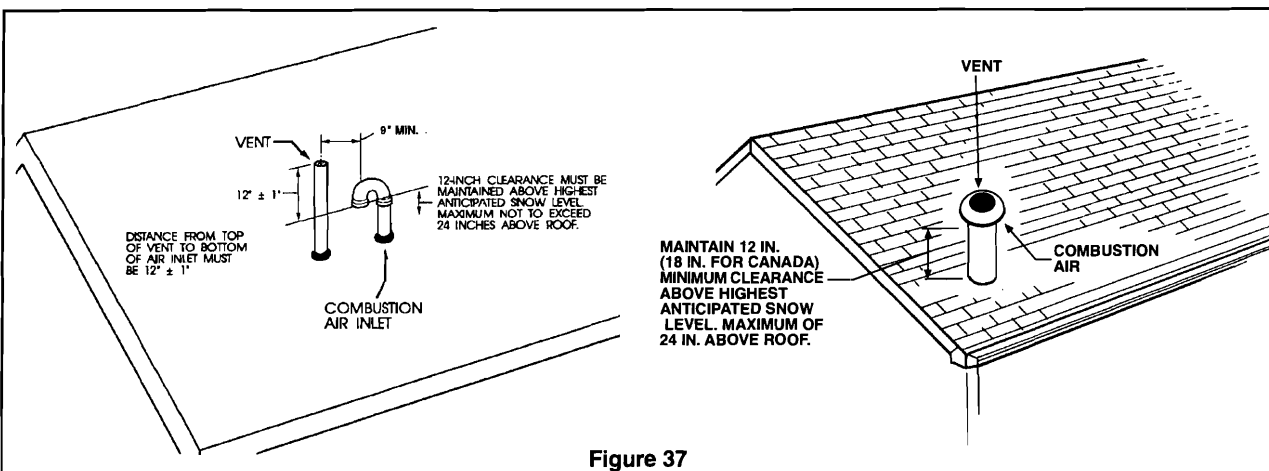

Figure 37
**NOTE:** No vent cap as shown in Figure 37 is the preferred method for vertical vent termination in extremely cold climates.